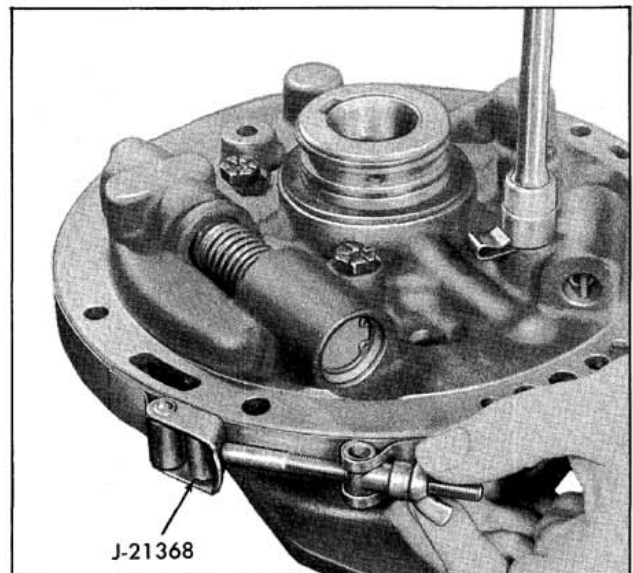

Fig. 6-123 Installing Pump Body
13. Place Pump Aligning Strip, J-21368, over pump body and cover, and tighten tool. (Fig. 6-123)